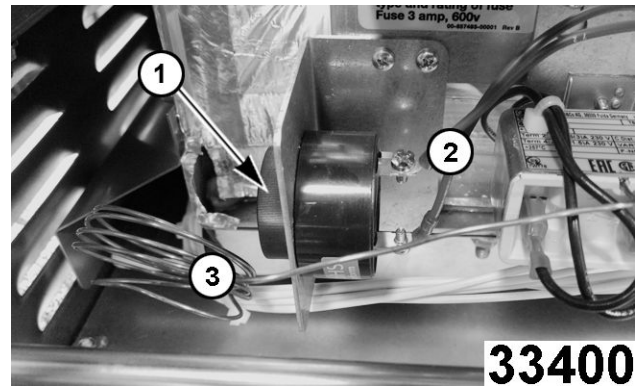

Fig. 54
3. Remove knurled knob (1, Fig. 54).
4. Note and disconnect wiring (2, Fig. 54).
Take care not bend capillary tube (3, Fig. 54).